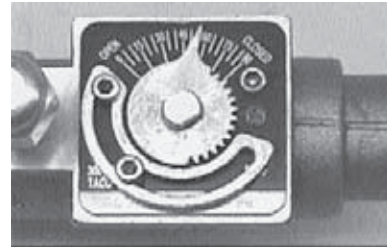

Figure 18. Close-up view of manual circuit setter valve.
5. Adjust the circuit setter valve by turning the valve stem until the appropriate pressure drop is achieved. See Figure 18 on page 30.